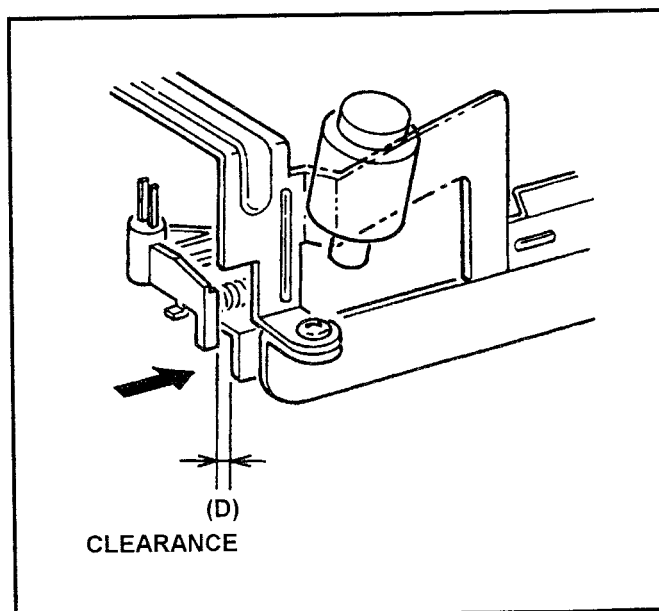

Fig. 6-15-2 Cleaner Solenoid Position Adjustment
2. Observe the clearance (D) between Cleaning Arm Unit and Cleaner Base Plate as shown in Figure 6-15-2. And make sure that it is within 0.5 to 0.7mm.
3. If not, loosen the 2 screws (A) and adjust the position of Cleaner Solenoid Unit by moving arrow direction (C⇌C) using the Eccentric drive so that the clearance (D) is within specification. And tighten the 2 screws.